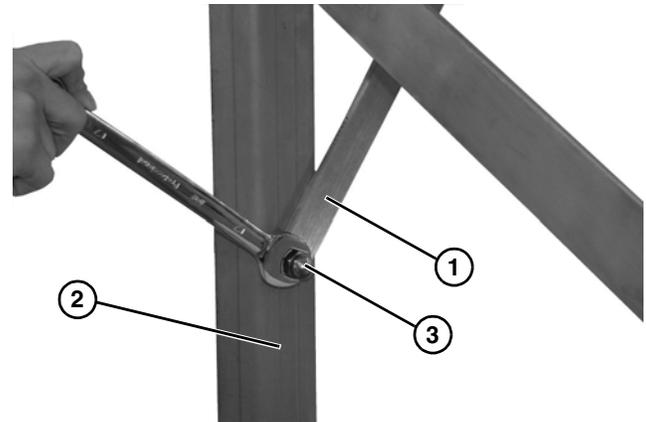

Figure 14
1. Install the end of brace with non-threaded hole (Figure 14, item 1) onto the inside of the stand (Figure 14, item 2).
2. Secure the brace with a hex head bolt and nut (Figure 14, item 3).